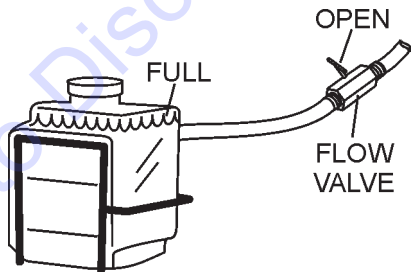

Figure 36. Piston Oiler Valve (Open)
2. Open the *piston oiler valve* (Figure 36) slightly. Verify that oil is flowing through the lines, but not excessively. **DO NOT** start pump for at least 5 minutes.